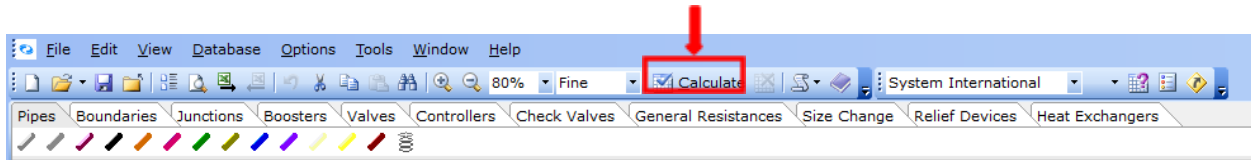

Figure 26: Calculate Button.
29. Calculate the model using the *Calculate* button located at the top of the flowsheet (Figure 26):